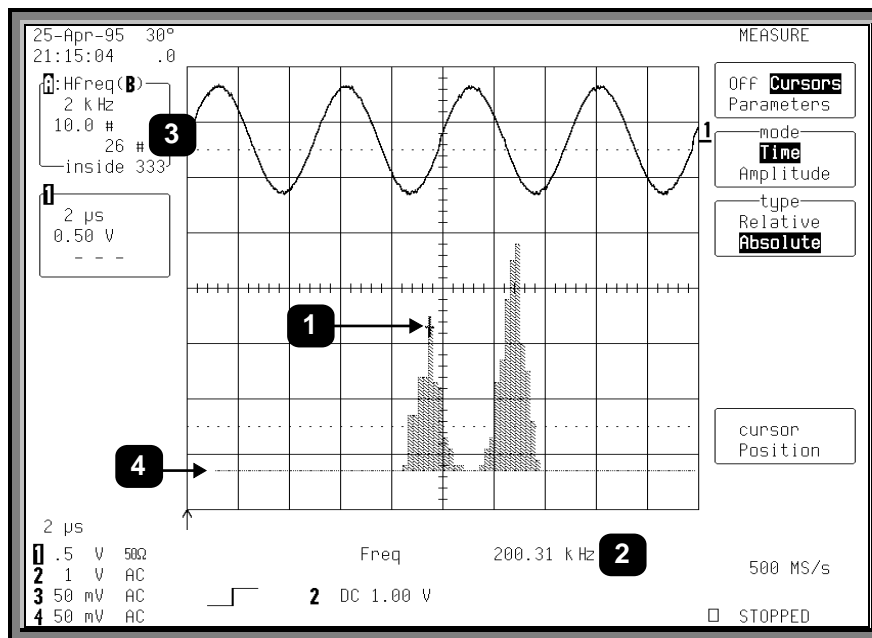

Figure 2.9
Cursors are useful for determining the value and population of selected bins. Figure 2.9 shows an absolute time cursor (Item ❶) positioned on a selected histogram bin. The value of the bin (❷) and the population of the bin (❸) are also shown.